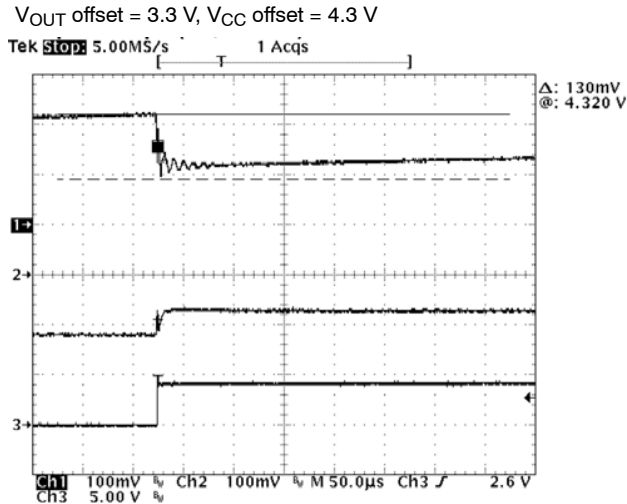

Figure 7. VCC Power-up (VAUX = 3.3 V)
**VCC Power-up (VAUX = 3.3 V).** Figure 7 shows the output response as VCC approaches the select threshold during a power-up when VAUX is present (3.3 V). The output capacitor is already fully charged. When VCC reaches the select threshold, the in-rush current is minimal and the VCC disturbance is only 130 mV. The built-in hysteresis of 250 mV ensures the regulator remains enabled throughout the transient.